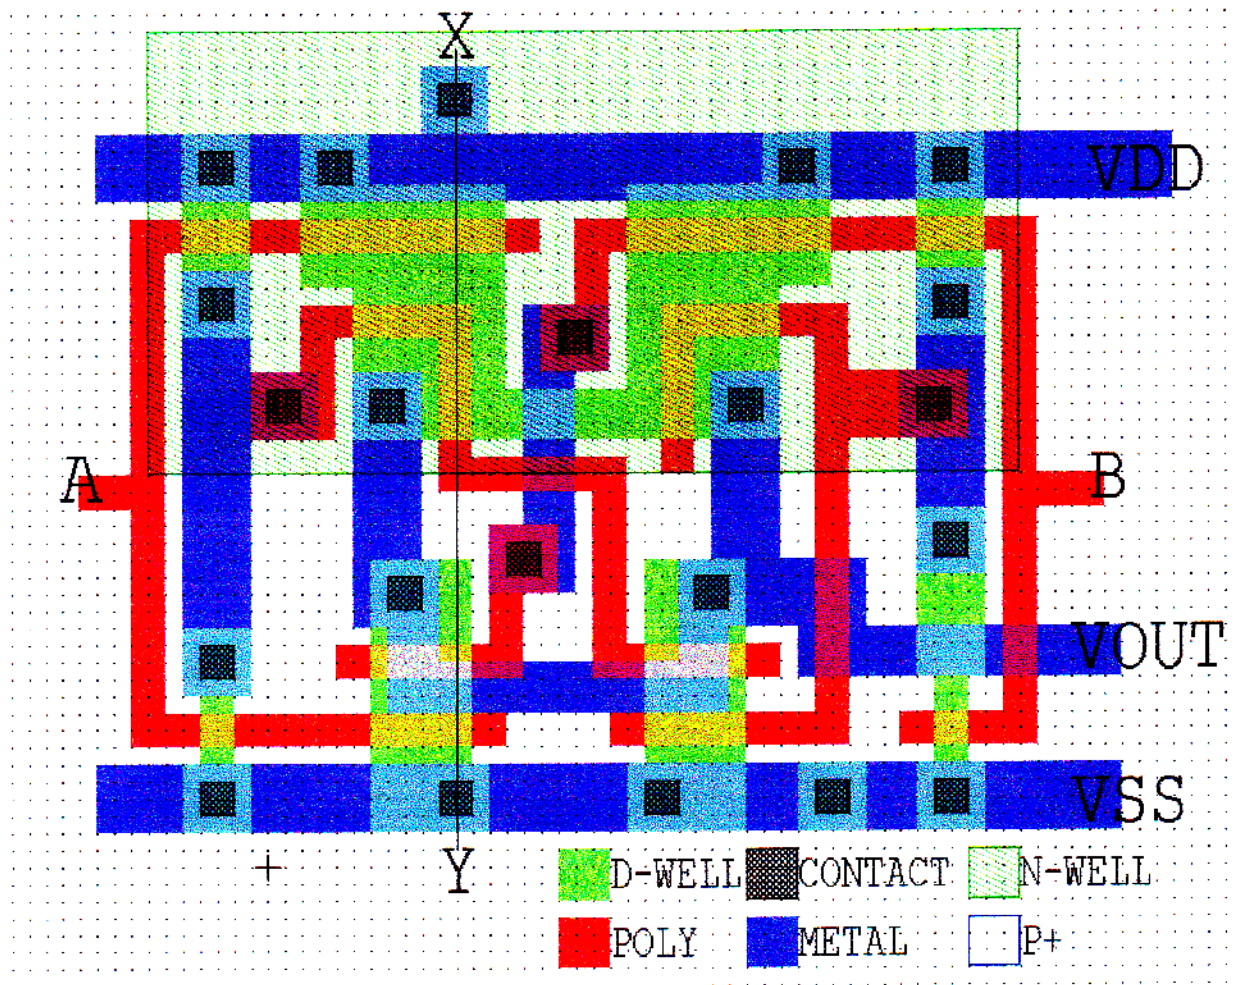

Fig. 1.1 CMOS layout for questions 1, 2, and 3.
1. Fig. 1.1 on p. 8 shows the layout of a circuit fabricated in the n-well CMOS technology used in Lab 2. The layout is not complete: the p⁺ region is not shown. Draw the outline of this region (or regions) on the layout, and use cross-hatching to indicate the interior of the region. (*Note: In this CMOS technology, by default any area which is not covered by the p⁺ region receives the n⁺ implant*). 4 marks
2. In the space provided to the right of the layout in Fig. 1.1, carefully sketch a cross-section through the integrated circuit along line X-Y (i.e., show how the IC would look if cut along line X-Y and viewed from the side). Indicate the n-well and n⁺ and p⁺ regions on your cross-section. 16 marks
3. a) Underneath the layout of Fig. 1.1, draw the circuit schematic corresponding to the layout. Show the substrate (body) connection for each transistor. 10 marks